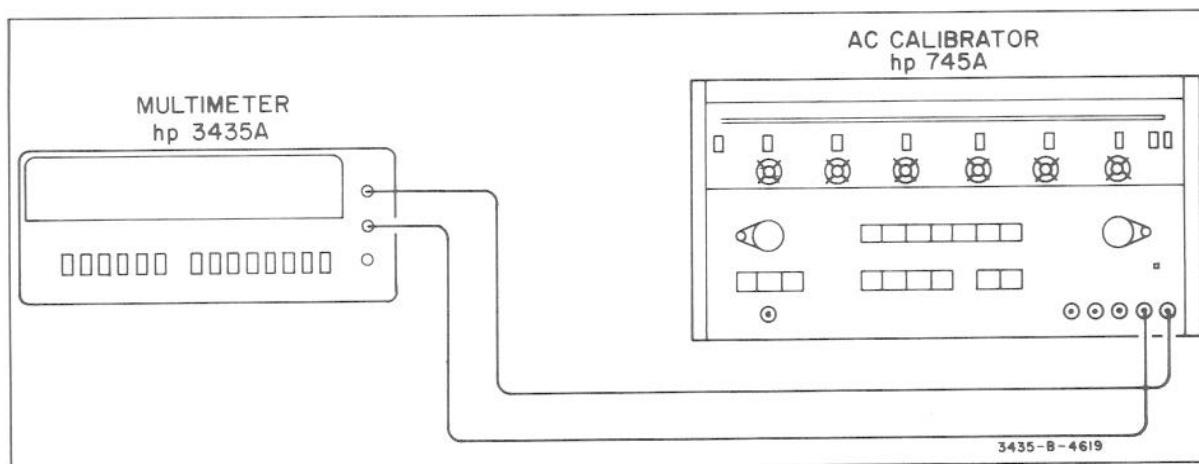

Figure 5-9. AC Gain Adjustment.
- c. Connect the 745A to the Multimeter as shown in Figure 5-9.
c. Connect the 745A to the Multimeter as shown in Figure 5-9.